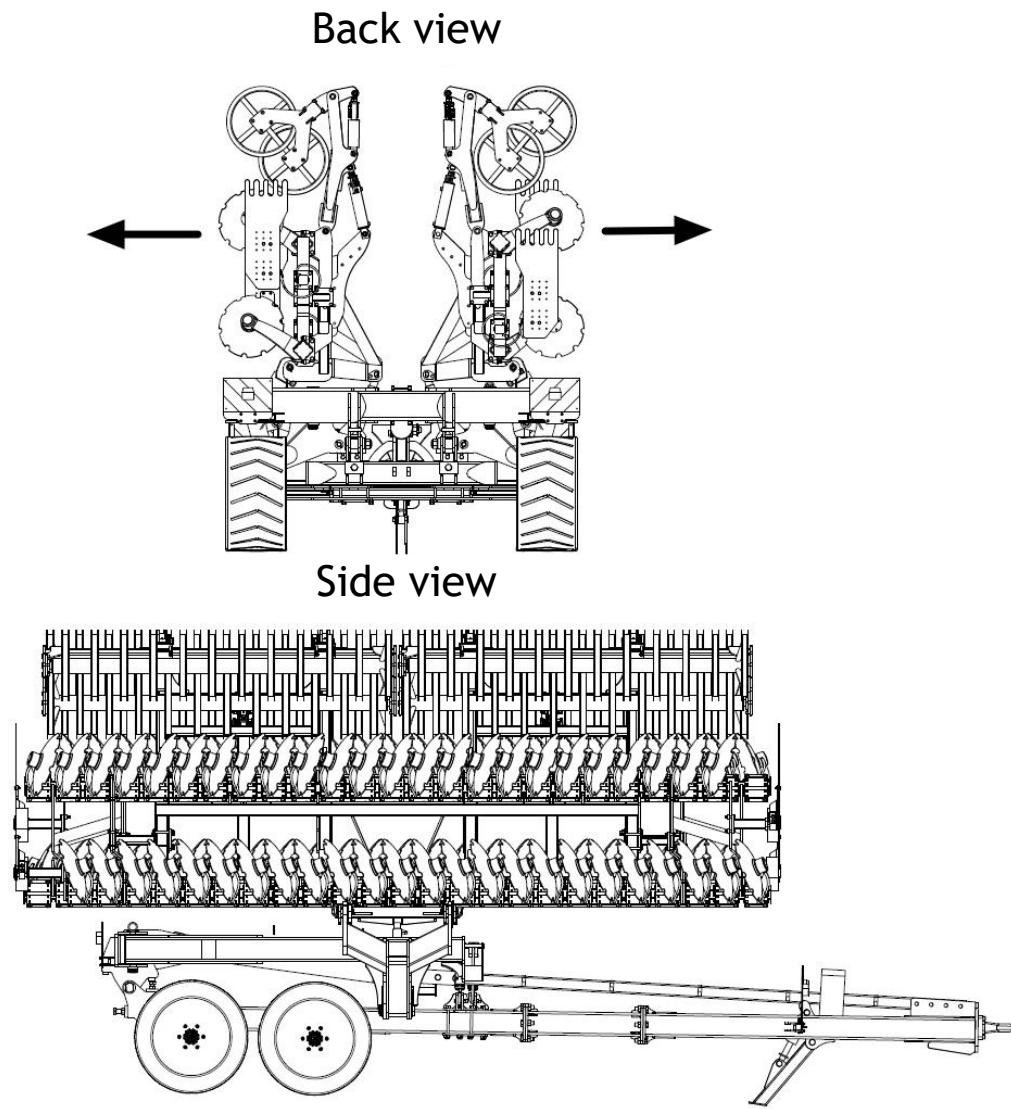

Figure 34 Unfolding the machine wing.
3. Using the hydraulics, spread the arms of the machine horizontally until they are fully extended (fig. 34).
4. The next step is to hydraulically unfold the open arms of the machine to a horizontal position (fig. 34, 35).